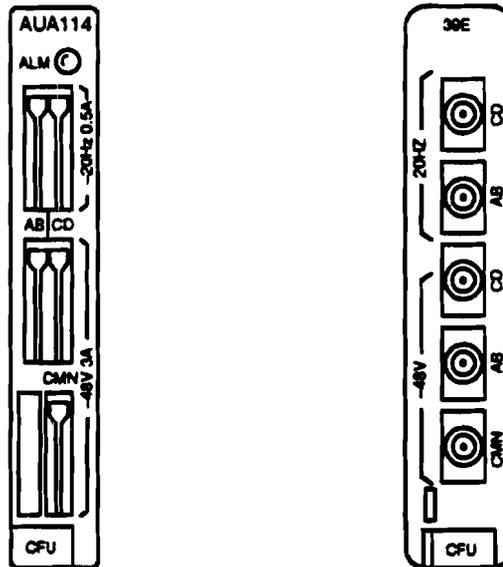

Figure 1 — AUA114 and 39E Channel Fuse Unit
1. Get **AUA114** or **39E CFU** (Figure 1) and inspect for possible damage.